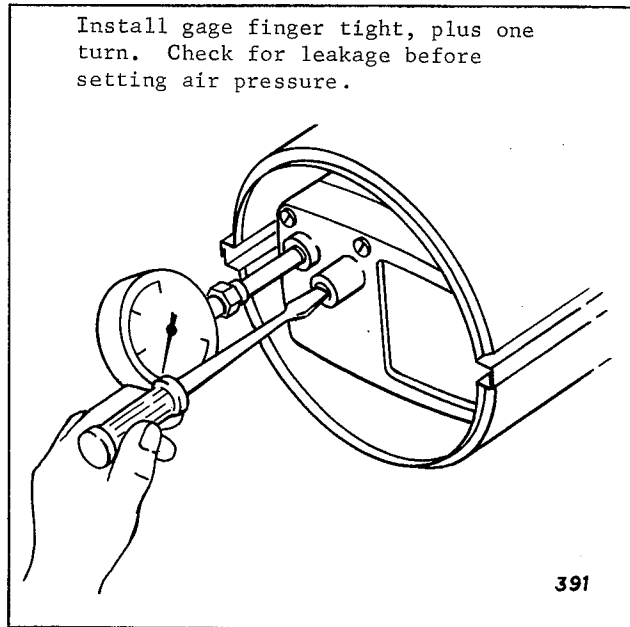

Figure 12. Checking and adjustment of
1. Remove the plug from the air filter housing, and install the pressure gage (listed in paragraph B of this Section) into the hole. See figure 12.